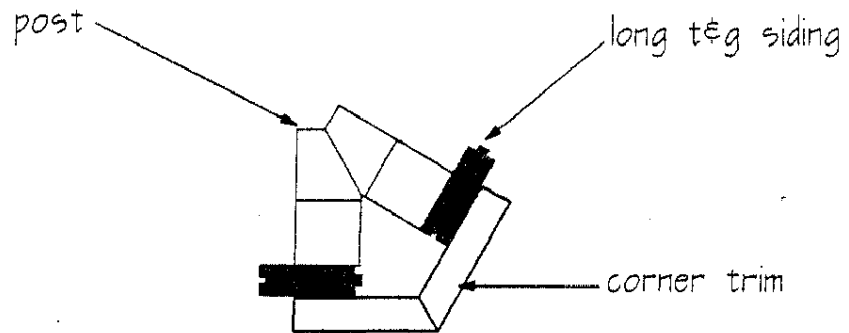

Figure E2
2. The Corner Trim can now be attached. The Corner Trim boards are the edge angled 1 x 4" pieces. Each piece is about 7 feet long and when the two pieces are joined together by the bevelled edges it will form the same angle as formed by the two attached Sidewalls. Push the Corner Trim up against the bottom side of the Long Rafters and attach over posts using eight 2" finishing nails per Trim Board. See **Figure E2** for details. If you wish to wire electricity into the All Season model, the wire can be run inside this gap between the Posts and will be hidden by the Corner Trim Boards.